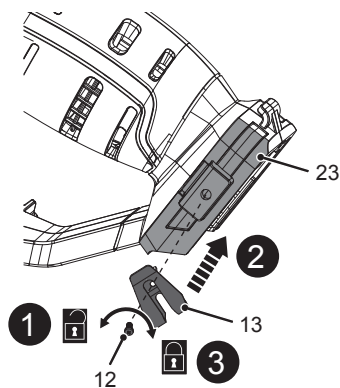

Fig. 7
1. Unscrew the fixing screw (12) anti-clockwise from the battery docking port (23) using the supplied multi-tool (24) (Fig. 7, step 1).
2. Align and attach the belt clip (13) properly to the slot of battery docking port (23) (Fig. 7, step 2).
3. Tighten the screw (12) clockwise to secure the connection using the supplied multi-tool (24) (Fig. 7, step 3).